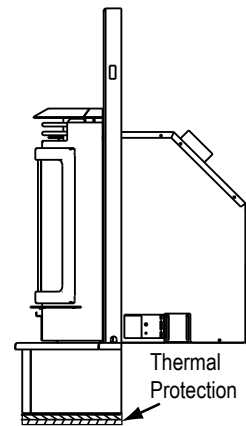

Figure 24.4
10. Thermal protection of 1-1/2 inches (38mm), "k" value of 0.49 and R value of 3.06 under the zero-clearance trim support (**Figure 24.4**).